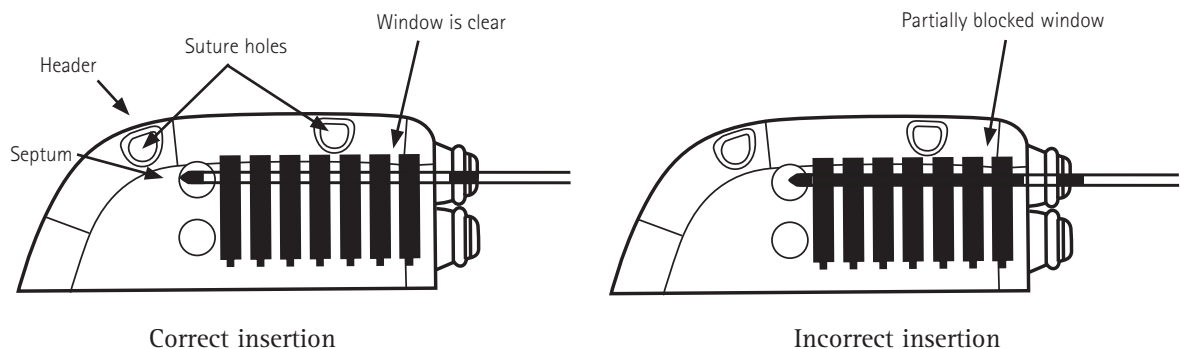

FIGURE 2
3. Carefully slide the proximal end of the extension into the IPG header until it stops (see Figure 2).
- To stabilize the IPG within the pocket and minimize movement, pass a suture through a suture hole at the top of the IPG header (see Figure 2) and secure it to the connective tissue.